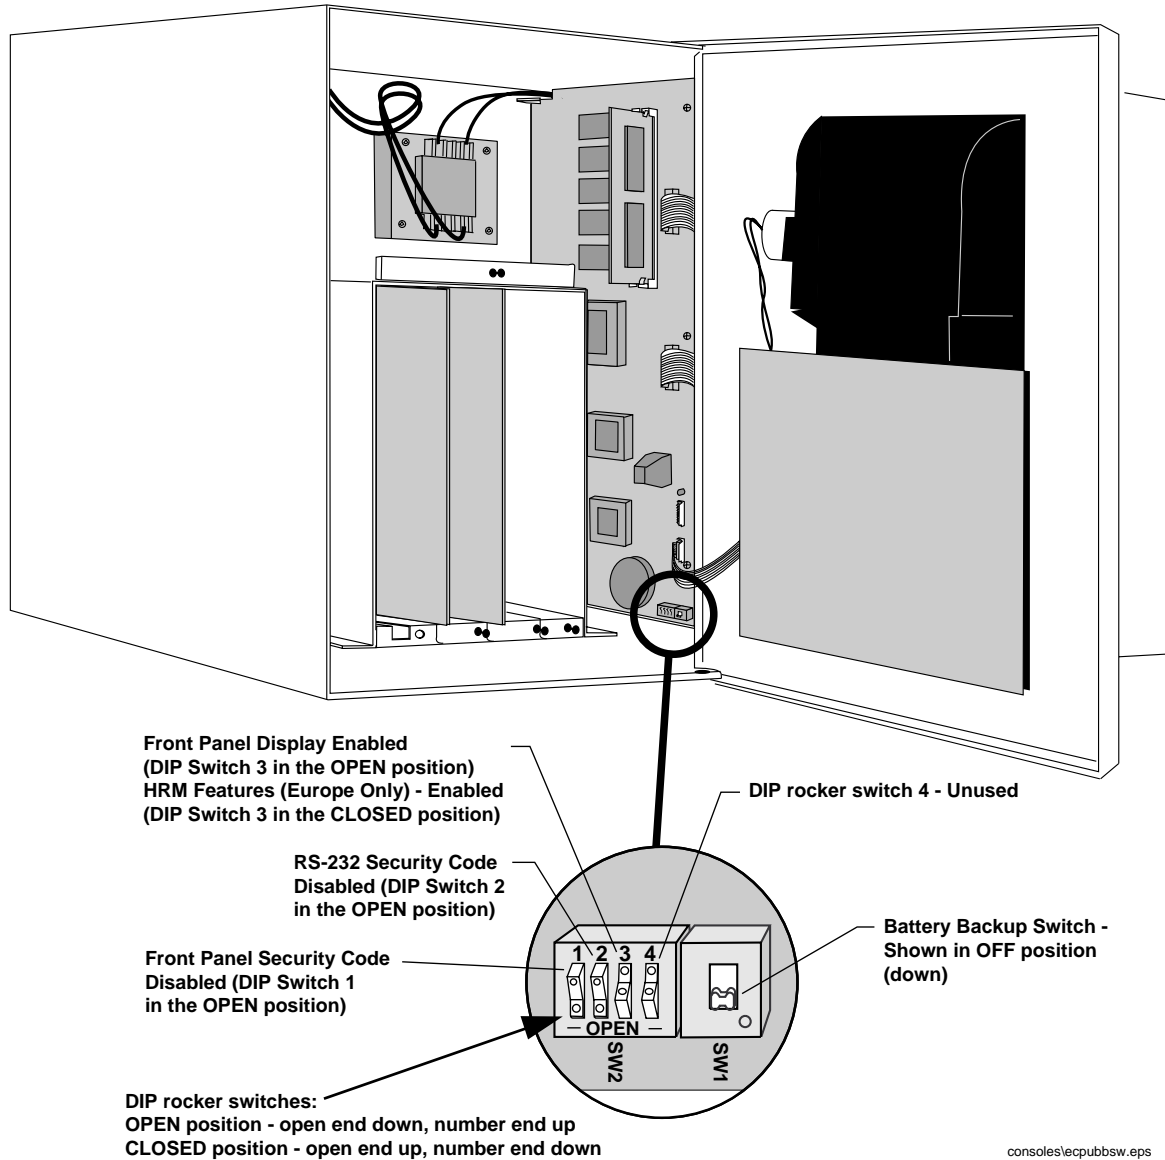

Figure 1. ECPU Board Battery Switch ON (SW1)
3. To retain current programming, be sure that the ECPU board battery switch is set to “ON” (see Figure 1 on page 4, but put in the “up” position). To avoid electrical shock or damage to components if accessing the battery switch, avoid touching any circuit components with your hand, any conductive tool or metallic jewelry.